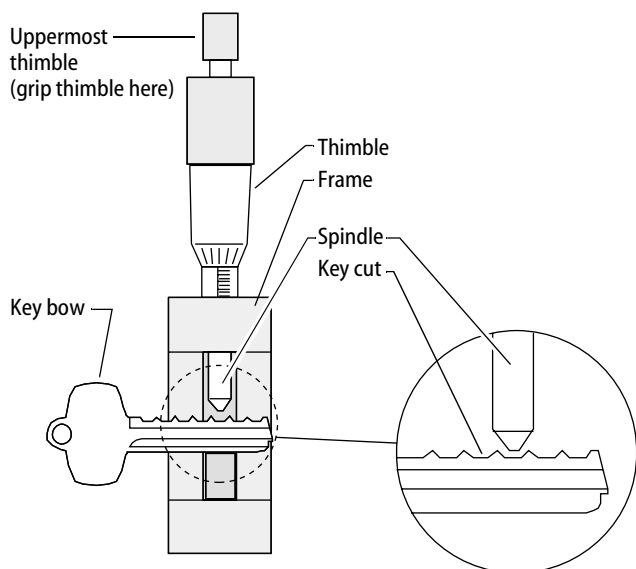

Figure 2
- 1 Hold the key gauge with the thimble pointing up. See Figure 2.
- 2 Put the blade of the key into the frame as shown in Figure 2. The key cuts should be on the top and the bow of the key to the left. Make sure the key is flat against the back of the frame and the bottom of the key is against the base of the frame.
- 3 Center the third or fourth key cut under the point of the spindle as shown in figure 2.